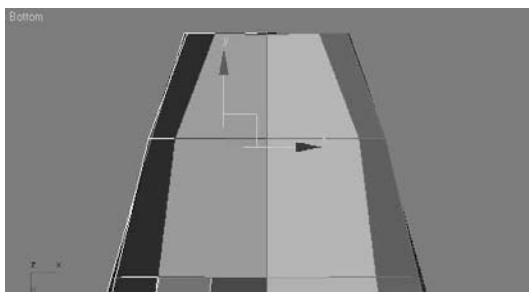

Figure 5.53
2. Select the two polygons at the back bottom of the body shown in Figure 5.53, and extrude them with an Extrusion Amount of 0.6.